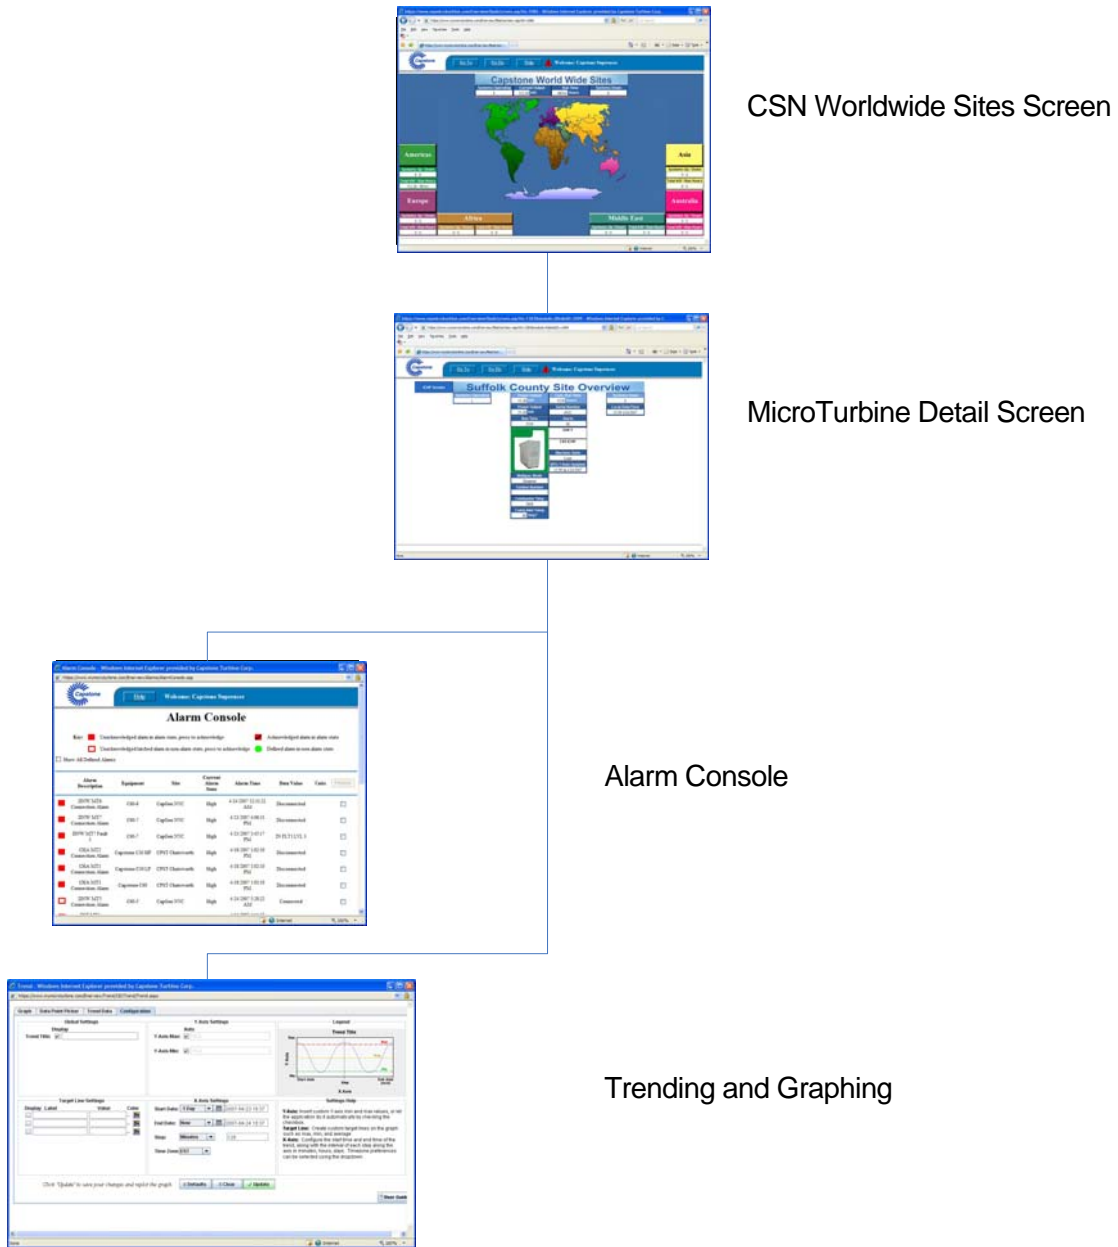

Figure 11. Single MicroTurbine, No Balance of Plant Monitoring
1. A site containing a single MicroTurbine, no balance of plant monitoring (see Figure 11).